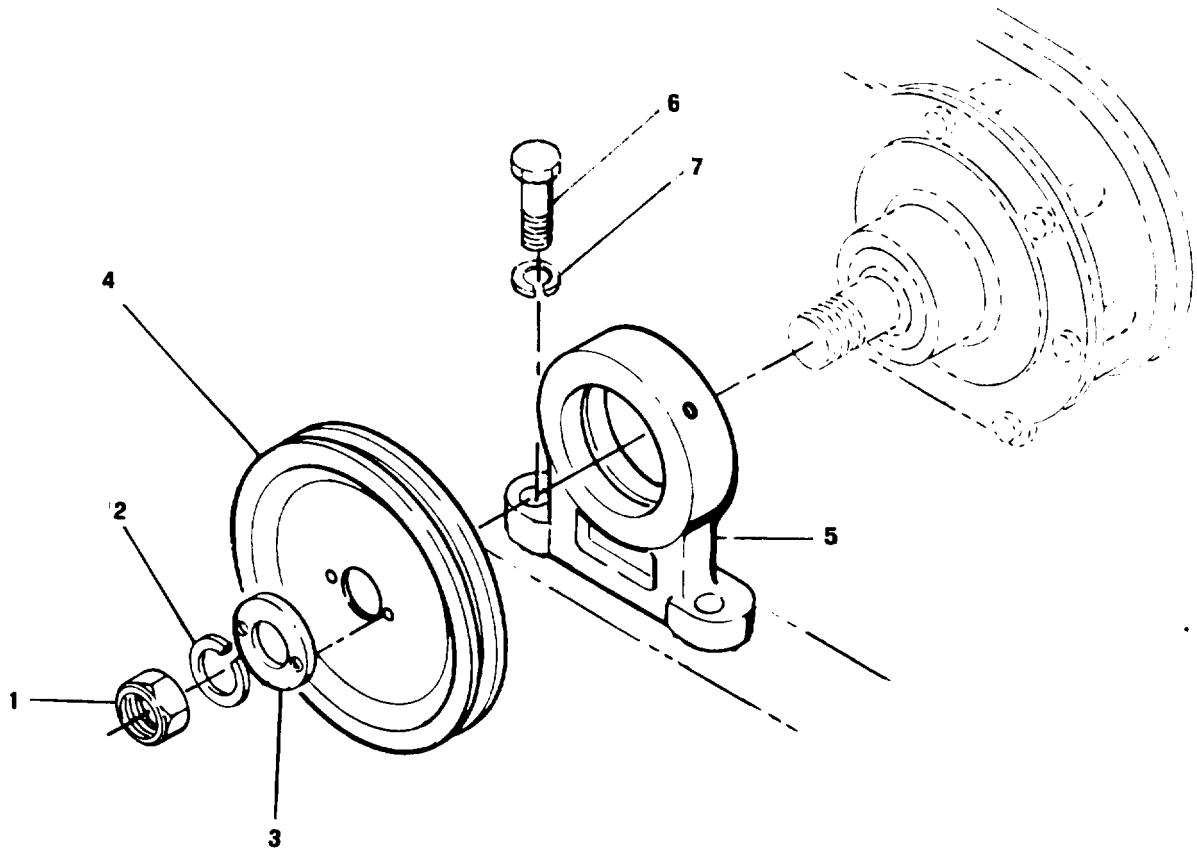

Figure 3-41. Engine Front Support, Removal and Installation
- (1) Remove nut (1, figure 3-41), lockwasher (2), ring (3), and crankshaft (4).
- (2) Remove front engine support from crankshaft by removing bolt and lockwasher.
- (1) Install lockwasher (7, figure 3-41), bolt (6), to crankshaft to install engine front support (5)
- (2) Install crankshaft (4), ring (3), lockwasher (2) and nut (1).